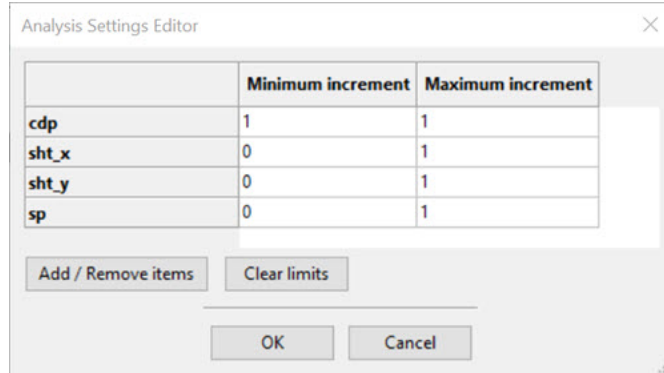

Figure 3-18 Analysis Settings Editor
- Analysis setting limit results are displayed in the *Analysis Settings Editor* box. (Figure 3-18).